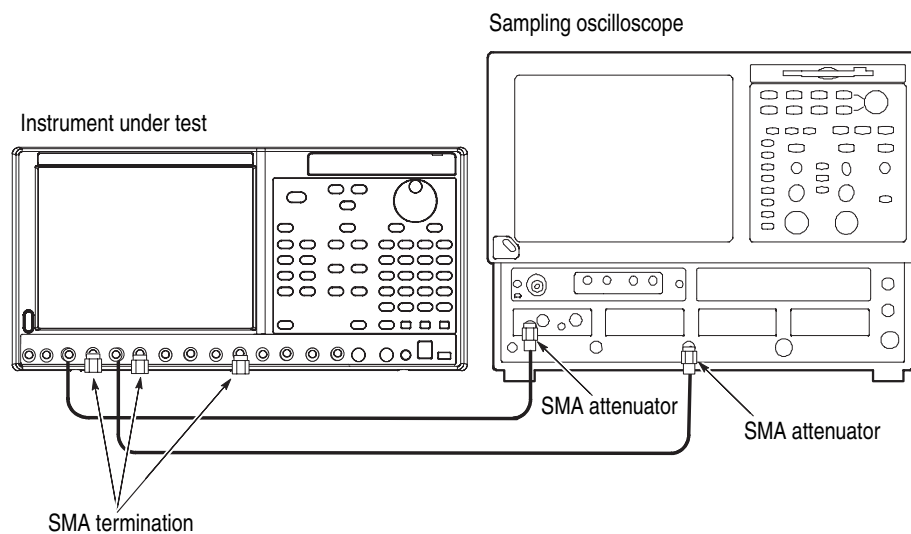

Figure 3-6: Inter-channel skew calibration initial hookup
- Connect an SMA cable from the Channel 1 Analog (+) Output on the front panel of the arbitrary waveform generator to the CH 1 Input of the sampling oscilloscope using the SMA attenuator, as shown in Figure 3-6.
- Connect an SMA cable from the Channel 1 Marker (+) Output on the front panel of the arbitrary waveform generator to the TRIGGER DIRECT INPUT of the sampling oscilloscope using the SMA attenuator, as shown in Figure 3-6.